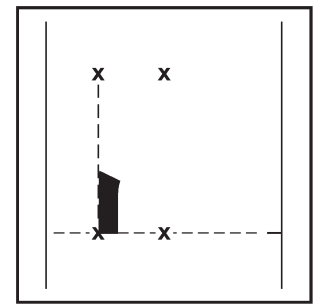

Figure 18
- Lay out the curve arrow base (liner still on) with the LEFT edge against the chalk line and the base along the base line (see Figure 18).